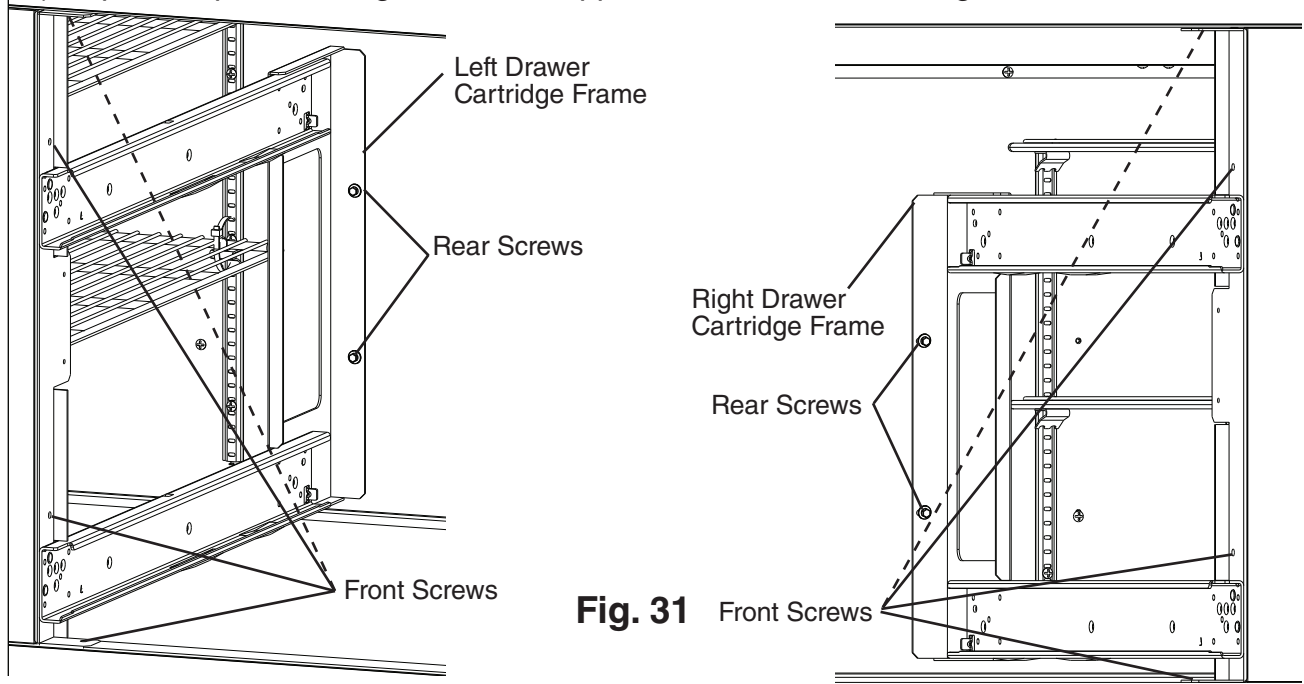

**Fig. 30**
19) Close the door and tighten the upper hinge bracket outer screw. See Fig. 30.